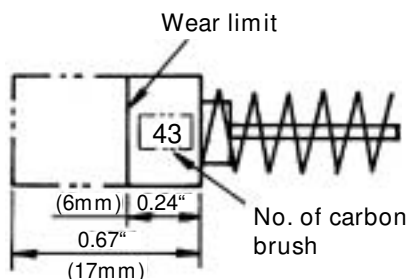

Fig. 6
4. Inspecting the carbon brushes (Fig. 6)
**NOTE:** Use HITACHI carbon brush No. 43 indicated in Fig. 6.